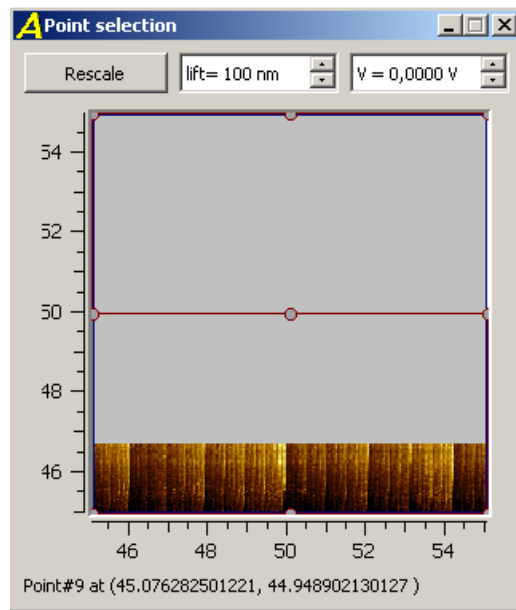

Figure 4.4.1 Surface estimation window
- The sample surface estimation window appears (fig. 4.4.1). Set lift to 100-300 nm for the first scan.